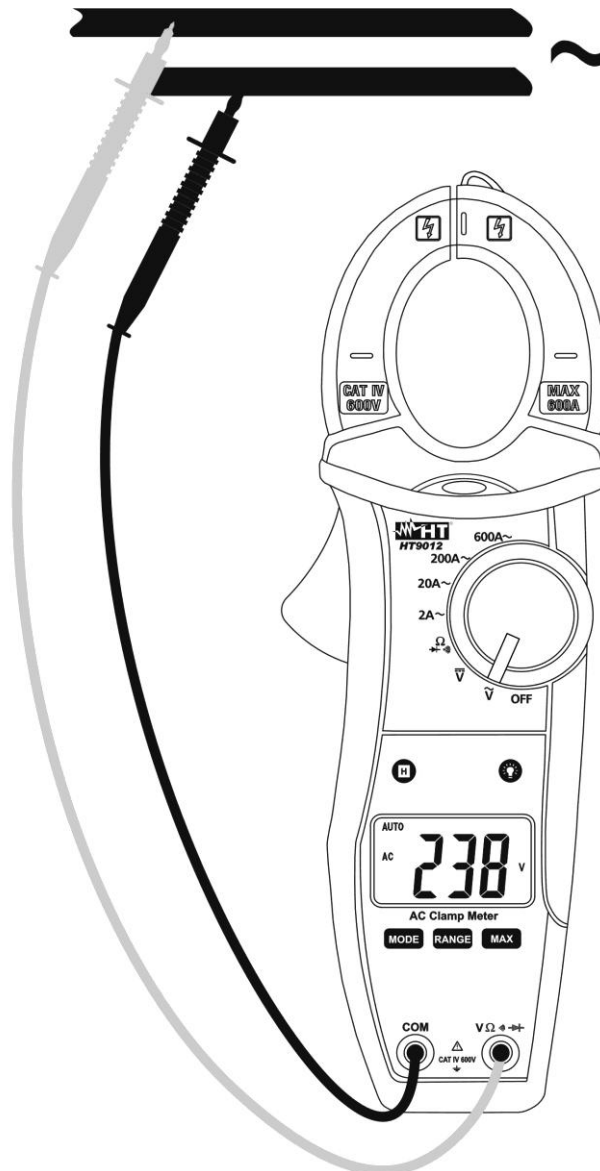

Fig. 4: Taking AC voltage measurement
4. Insert the red test lead plug into $V\Omega\rightarrow\leftarrow$ jack and the black test lead plug into **COM** jack (see Fig. 4)
5. Connect the two long ends of test leads to the desired circuit (see Fig. 4) then reading will be displayed